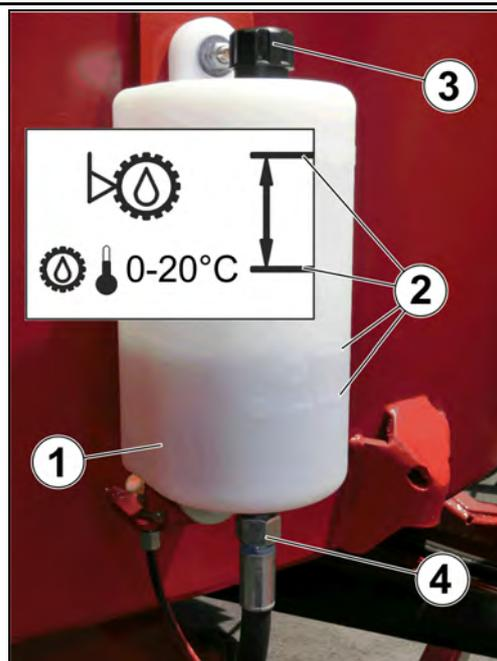

Fig. 107
1. Check the oil level in the mixer gearbox via the lateral compensating reservoir (Fig. 107/1).
The oil level must be visible between the two fill level markings (Fig. 107/2) of the compensating reservoir.
2. Fill gear lubricant oil (see Quantities when filled and change intervals, p. 154) through the vent opening into the compensating reservoir after removal of the vent screw (Fig. 107/3) if necessary.
3. Place a drip tray (capacity approx. 30 litres) beneath the compensating reservoir (Fig. 107/1).
4. Remove the vent screw (Fig. 107/3).
5. Unscrew the hose pipe (Fig. 107/4) from the compensating reservoir.
6. Refix the hose pipe (Fig. 107/4) to the compensating reservoir.
13. Fill gear lubricant oil (see Quantities when filled and change intervals, p. 154) through the filling pump into the mixer gearbox until the gear lubricant oil pours via the connector (Fig. 107/4) into the compensating reservoir (Fig. 107/1) and the oil level is visible between the two markings (Fig. 107/2) of the compensating reservoir.
17. Screw the vent screw (Fig. 107/3) again onto the vent opening of the compensating reservoir (Fig. 107/1).
20. Fill gear lubricant oil through the vent opening (Fig. 107/3) into the compensating reservoir if necessary.